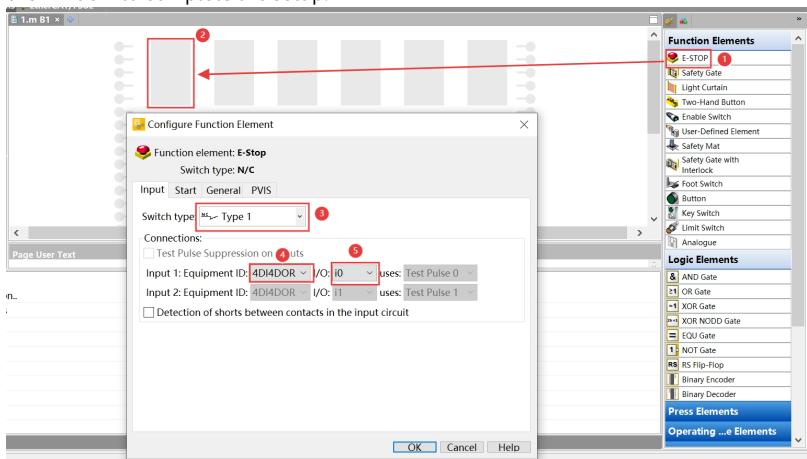

Figure 14-15 Configuring the input switch
- b. Drag the emergency stop button function block into the leftmost blank rectangular slot, and select the switch type, device ID, and input/output ports, as shown in "Figure 14-15 Configuring the input switch" on page 335. Click the OK button at the bottom of the window to complete the setup.